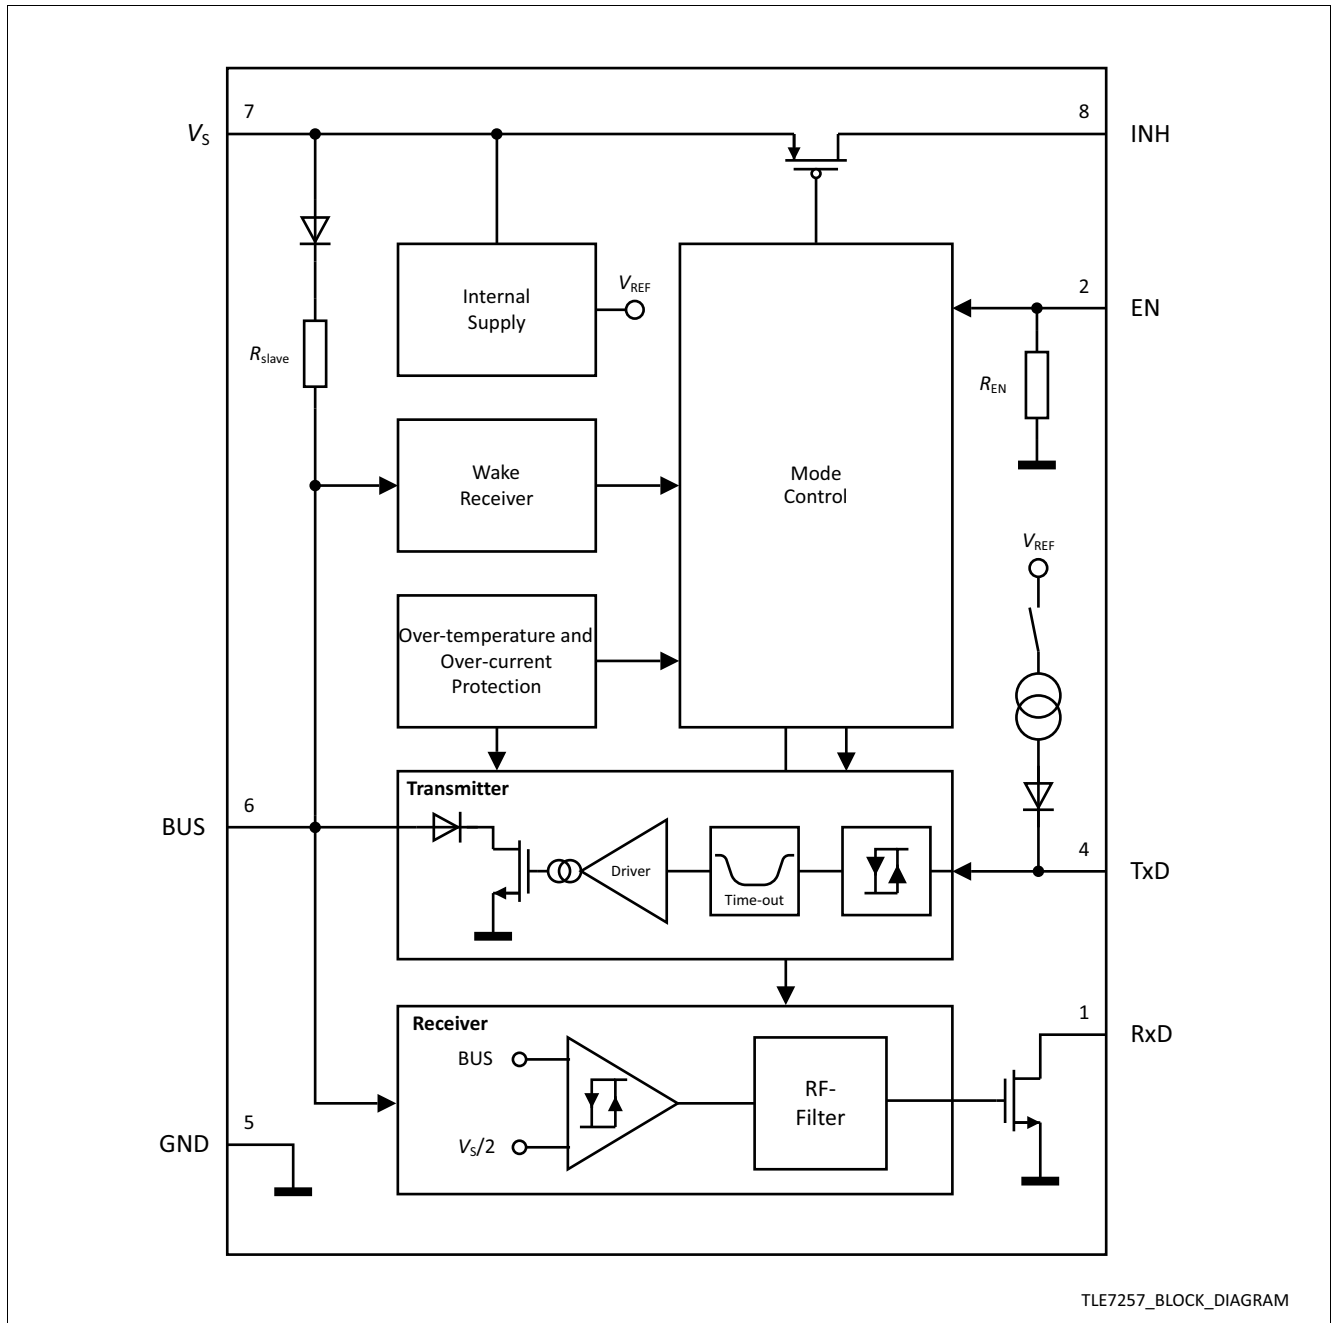

Figure 1 Block diagram
- 1) The TxD input is disabled in Sleep mode and the internal pull-up current source is switched off (see **Figure 1**).
- The BUS pin is terminated to  $V_S$  via the internal termination resistor  $R_{BUS}$  (see Figure 1).
- The BUS output is terminated to  $V_S$  via the internal termination resistor  $R_{BUS}$  (see Figure 1).